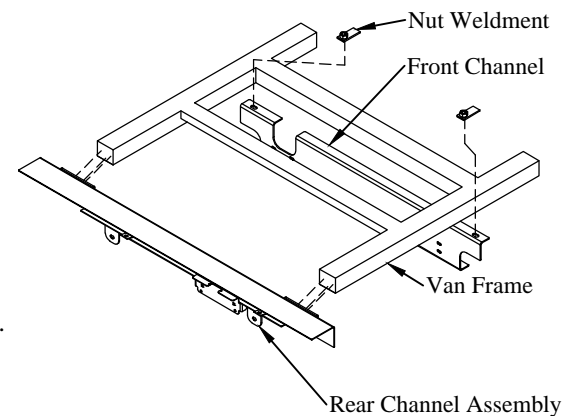

Figure 8: Front and rear channel assembly locations.
- 8. Install** the front channel assembly on the van frame (Figure 8). Use the two (2) supplied 5/8" x 1-1/2" bolts and nut weldments.
- 9. Install** the rear channel assembly on the rear of the van frame (Figure 8). Use the two (2) supplied 3/8" bolts, flat washers, lock washers, and nuts in the bottom holes. Use the four (4) vehicle bumper bolts on the top holes.